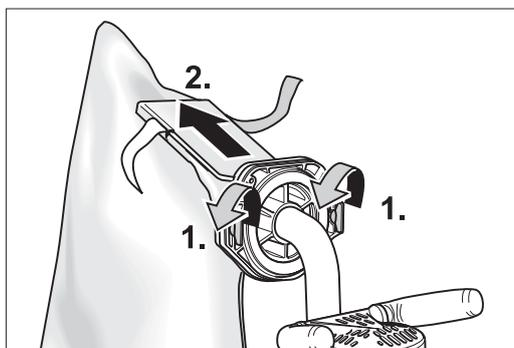

Fig. 15 Open the two quick-release fasteners and pull off the dust bag.
- 5 Open the two quick-release fasteners on the locating flange (fig. 15).
- 6 Slowly pull the dust bag off the locating flange (Fig. 15).